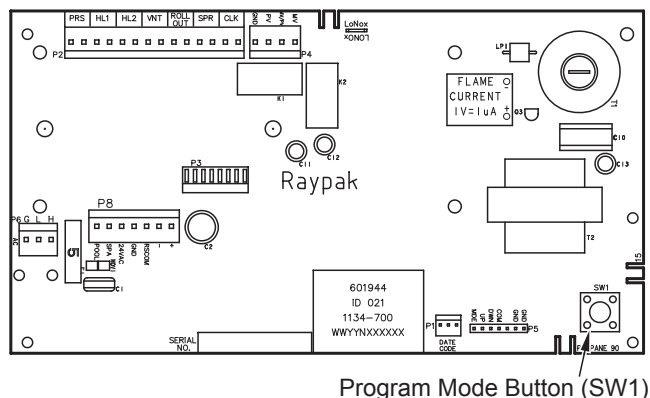

Figure 22. Thermostat Program Button (SW1)
1. Remove the two screws holding the control cover, and swing the panel down so the back side of the board is visible. Locate the Program Mode button (SW1) as shown in **Figure 22**. Press and hold the button for 5-7 seconds until Set Factory Defaults appears on the display. Release the program button.